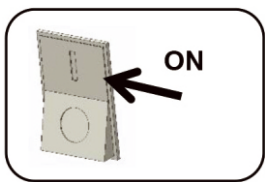

Fig. 4
7. Switch on power to the luminaire. (Fig. 4)